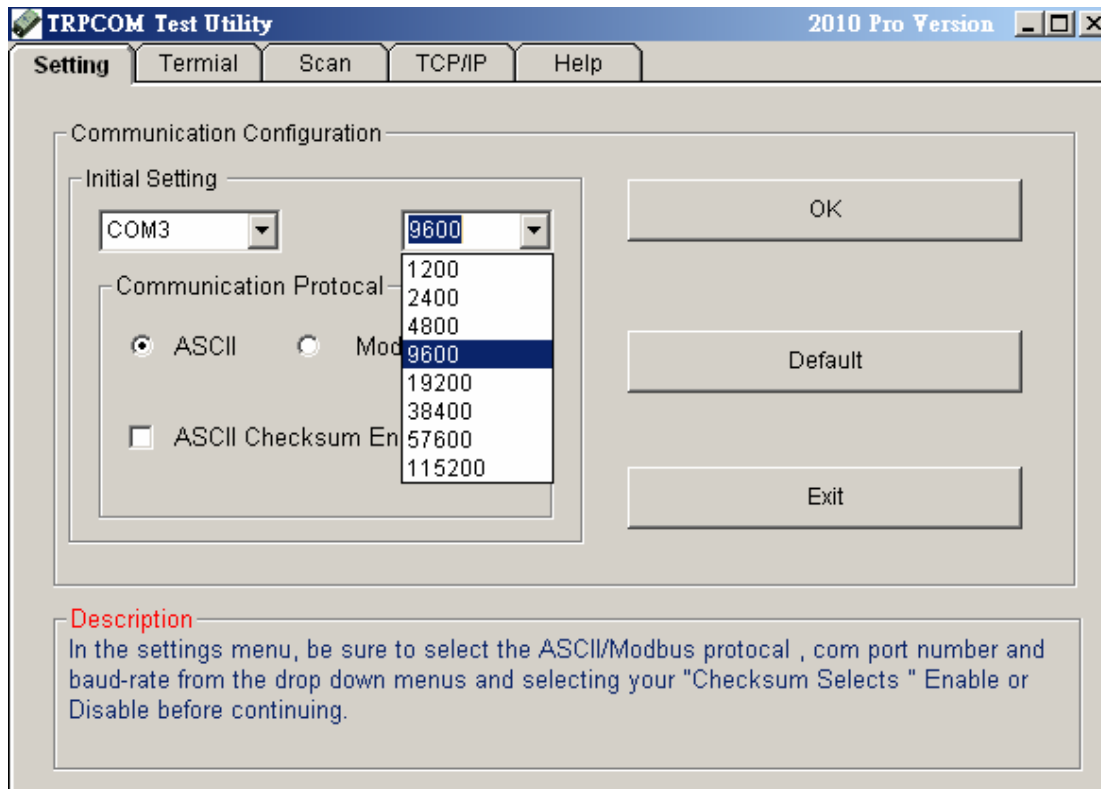

Figure 1
1.The "Setting " function is for user to initiate the software to set the Com Port from 1 to 20 and setting the Baud-Rate from 1200 to 115200,Checksum Enable or Disable. See Figure 1